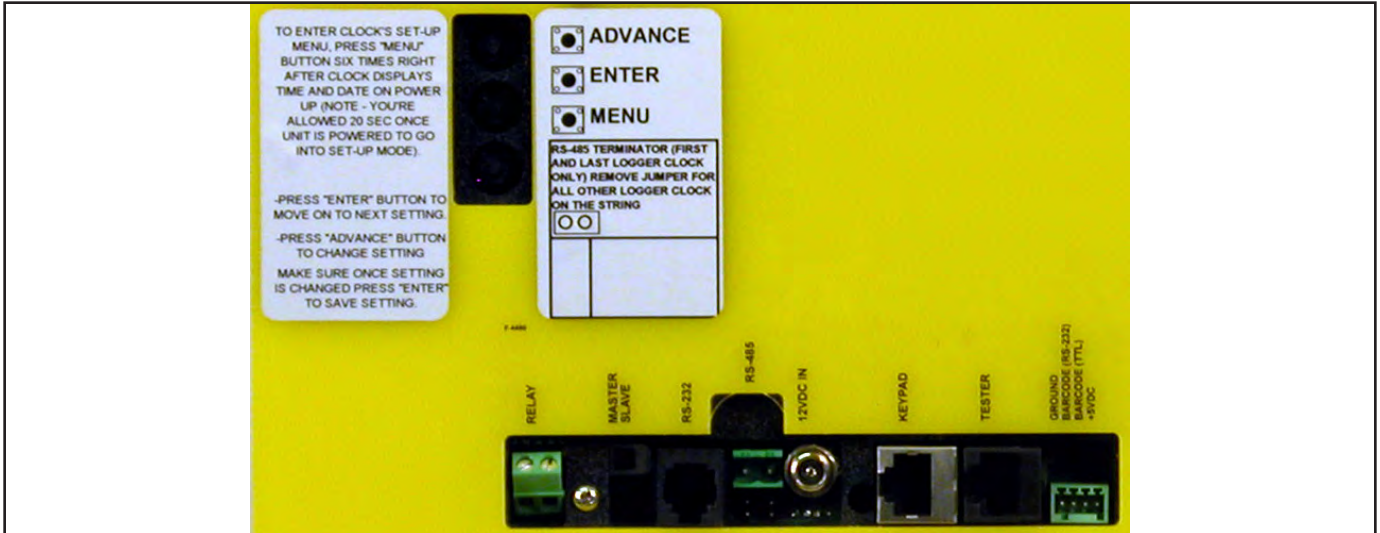

Figure 6. Back-side of SmartLog V4 plate
A. Clock's Baud Rate, ID, Parity, Daylight Option and Port Expand (see Figure 6)
1. Plug the power supply into the unit and then to the appropriate AC source. Refer to Figure 6 to locate the power input jack. The SmartLog will cycle through a self diagnostic program. The time and date will appear on the screen when the diagnostics is complete. Do not continue until this step has been completed.
2. After the self diagnosis press the MENU button six times. If you do not press the Menu button within 20 seconds the clock will exit out of the set-up menu and will need to be reset by disconnecting then reconnecting the power supply. Refer to Figure 6 for button locations.